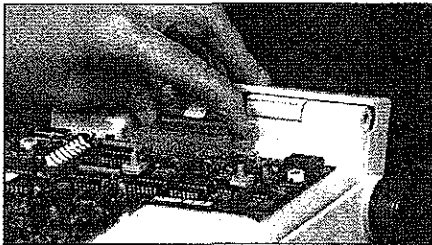

Figure 12
9. Pull out on the ejector latches on the display cable connector (see Figure 12). Disconnect the display cable from the main PCB. At this point the display assembly is totally detached from the Monitor.
11. Separate the bezel enclosure from the bezel top assembly by removing the four (4) 6-32x1/4" Phillips pan-head screws.
1. Install the bezel enclosure to the bezel top assembly by installing the four (4) 6-32x1/4" Phillips pan-head screws.
2. Reconnect the display cable connector to the main PCB (see Figure 12). Ensure that the cable has been fully inserted and that the ejector latches are firmly closed.